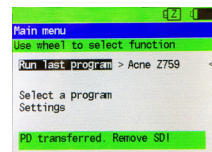
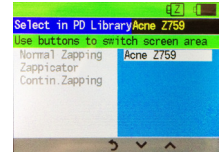

Fig. 12
Fig. 13
Just after the Program Driver (PD) has been put into the slot, the PD will be uploaded automatically and the message in Fig. 12 will appear, if the upload was successful. To select the uploaded PD press . You will be able to see and select all the PDs stored on the device (Fig. 13).